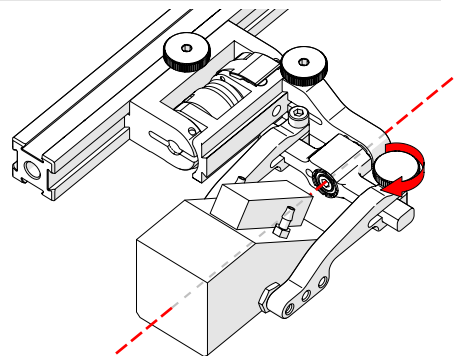

Fig. 136 - Pinch wedge with arm
9. Tighten the probe holder arm adjustment knob (Fig. 136).